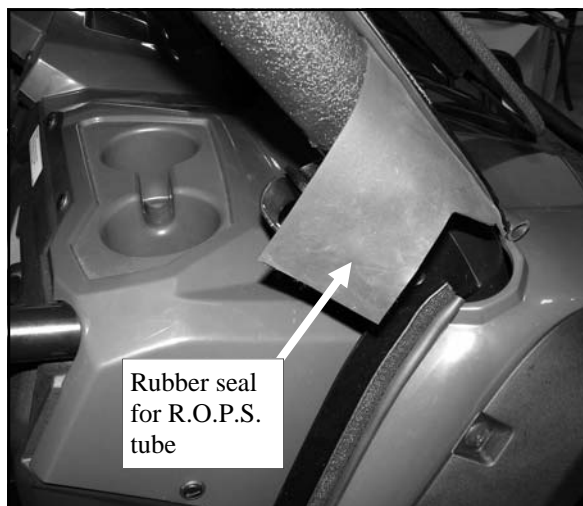

Fig. 8.4 (View of right side)
8.4 See fig. 8.4. Make sure the rubber seal for the R.O.P.S. tubing is loose and outboard as shown (not bound up).